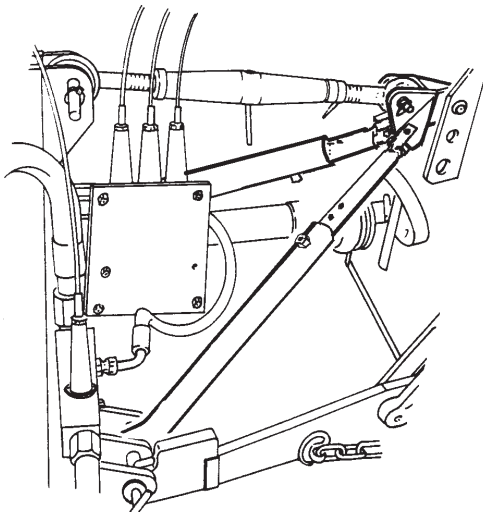

FIGURE 3-4
- B. Adjust the height hydraulically until the left hand link arm can be positioned in the clevis (D) and secured with hand pin (E).
A. The machine is supported on the three-point linkage of the tractor, together with a rigid frame between the mainframe and top link attachment of the tractor . See **FIGURE 3-4**.